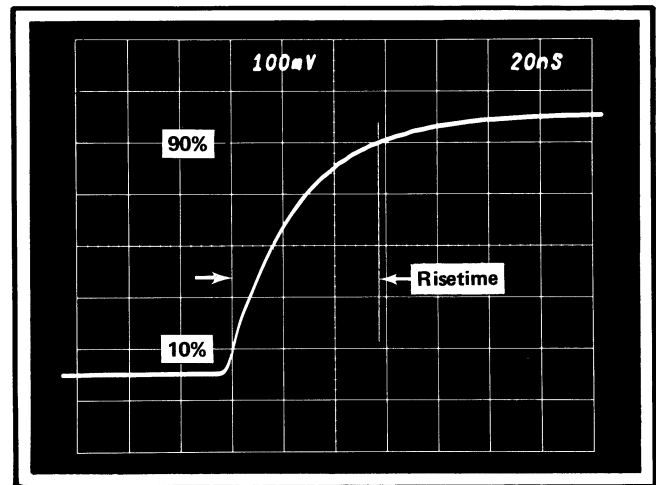

Fig. 5-5. Probe risetime measurement.
- g. CHECK—The display measured risetime for the 1X attenuation should be less than or equal to 60.2 ns (3.5 foot probe) or 75.2 ns (6.0 foot probe). See Fig. 5-5.